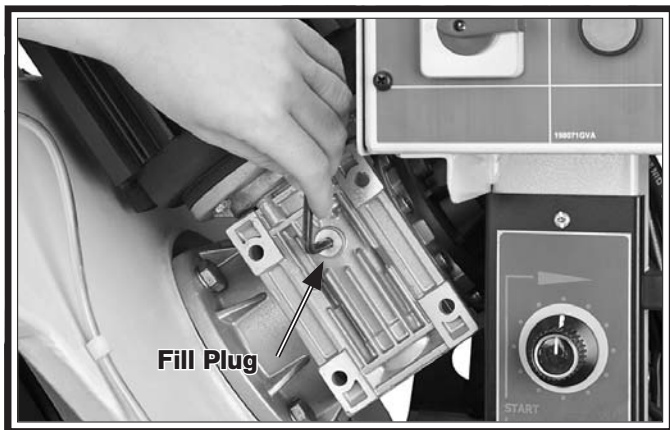

Figure 39. Gearbox fill plug.
2. Loosen the gearbox fill plug (see **Figure 39**).